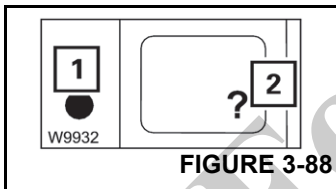

FIGURE 3-88
- If the rigging mode is not permissible, the lamp (1) (Figure 3-88) lights up. Press the button (2) once to display the error codes, refer to *Error Codes*, page 3-103.